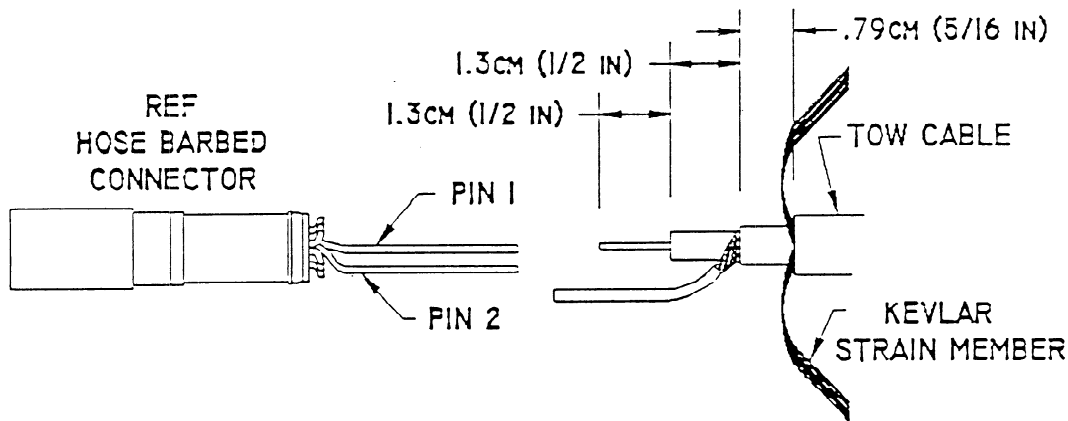

FIGURE 1
- Carefully cut away the black inner cable jacket .8 cm (5/16 inches) from where the Kevlar braid exits the cable, exposing the braided shield (see Figure 1).
- Install adequate length of .3 cm (1/8-inch) shrink sleeving (item 14) over formed conductor to cover entire length, and shrink with heat gun.